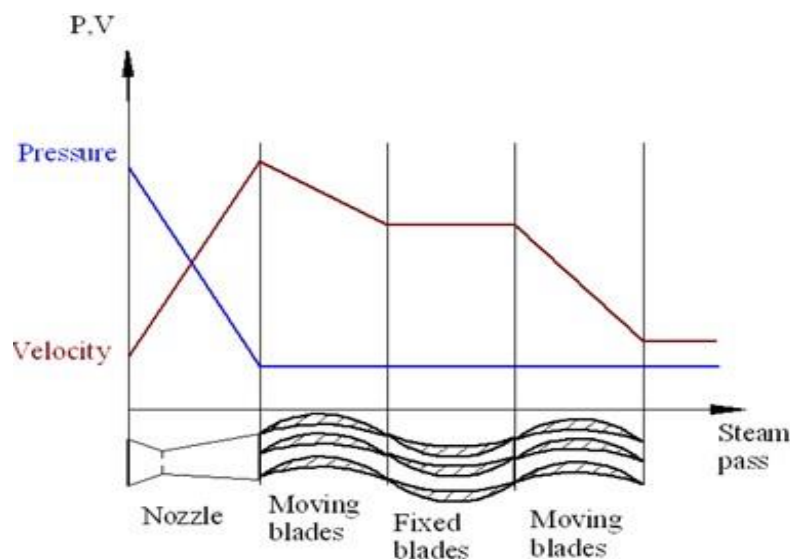

Fig. 4.3 Two stage velocity compounded impulse turbine.
**Answer:** A simple velocity compounded impulse turbine is shown in figure 4.3. It consists of a set of nozzles and a rotating wheel fitted with two or more rows of moving blades. One row of fixed blades is fitted between the rows of moving blades. The function of the fixed blade is to direct the steam coming from the first row of moving blades to the next row of moving blades without appreciable change in velocity.